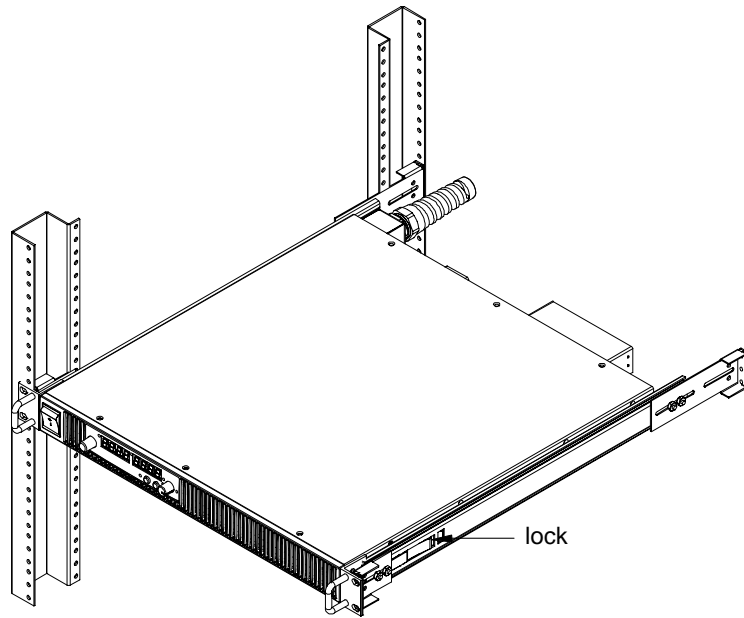

Figure 10 Installing Chassis
9. Remove chassis and securely tighten hardware from step 4. See Figure 10.